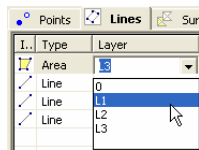

Figure 4-24. Selecting a Layer in the Line Tab
- Double-click in the *Layer* column and select a different layer from the drop-down list in the left panel of the *Line* tab (Figure 4-24).